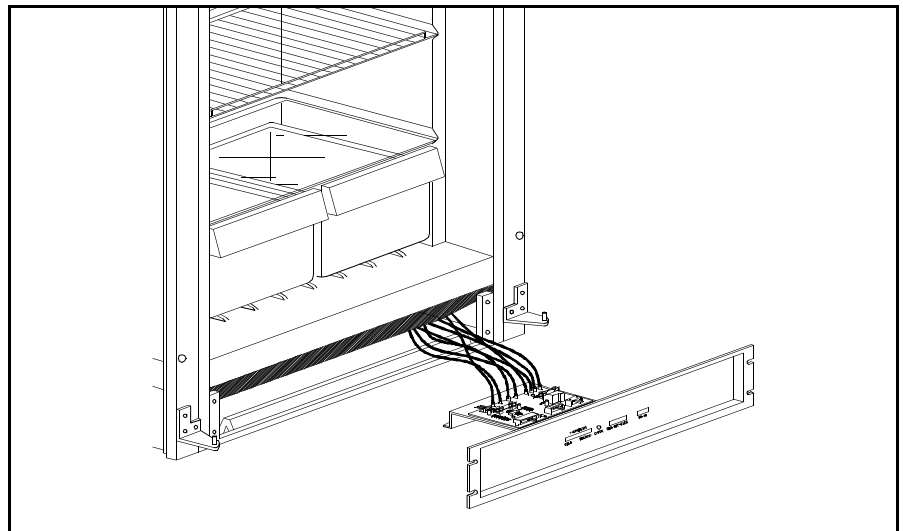

Figure 4.54 Withdrawing Control Panel
5. Using extreme care, pull the control panel forward, as shown in Figure 4.54, and the PC board will be visible.